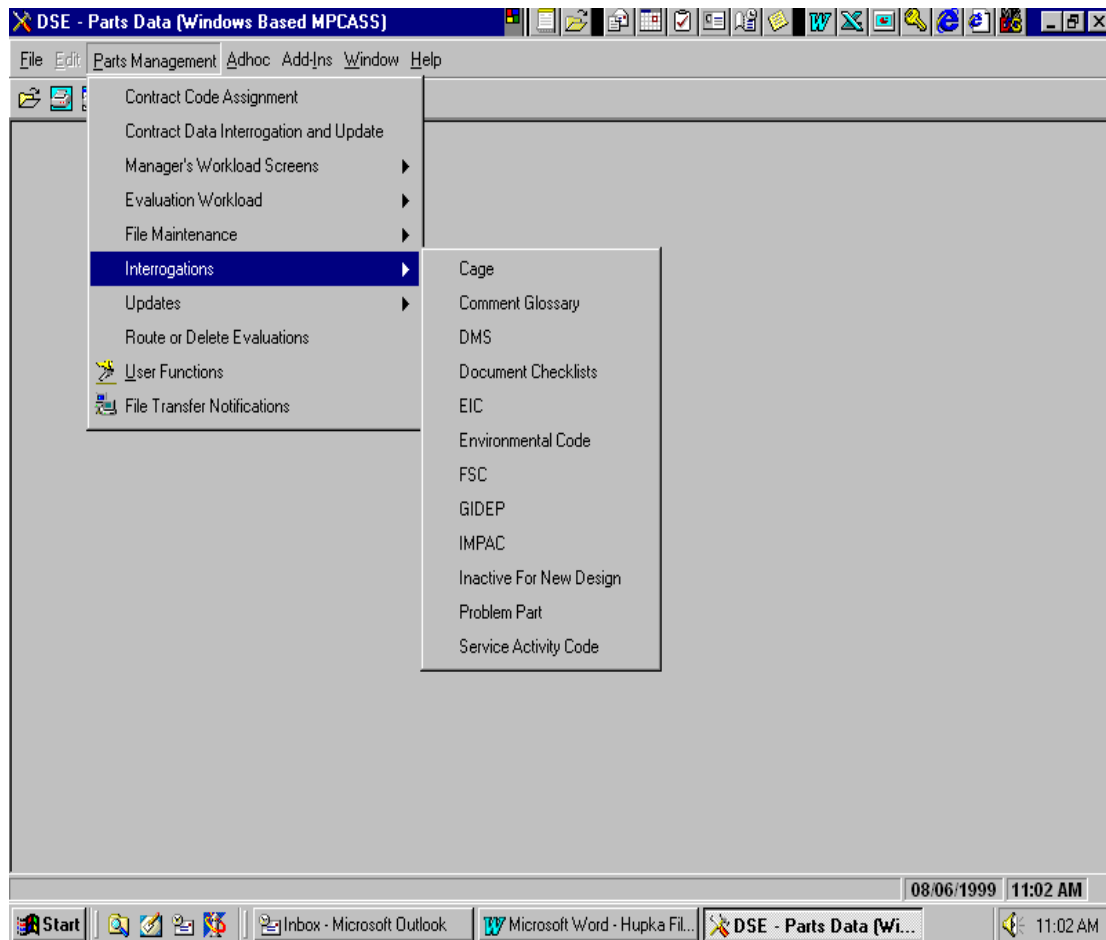

Figure 4.10a - PARTS MANAGEMENT PULL-DOWN MENU - INTERROGATIONS
a. The following files are available for interrogation. Select Interrogations from the Parts Management pull-down menu. See Figure 4.10a. The file interrogation menu will be displayed with the following selections available:
d. Figures 4.10a through 4.10s are screen/window displays for interrogation processing.